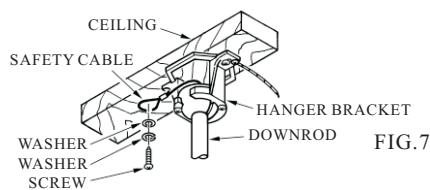

FIG.7
3. Install the safety cable into the building structure.(see Fig.7)